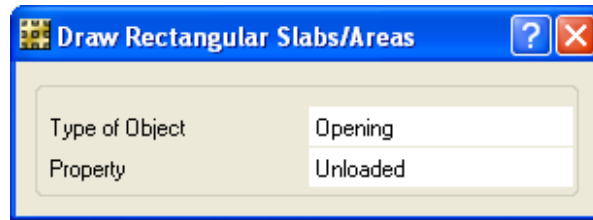

Figure 29 Draw Rectangular Slabs/Areas form
- A. Click the **Draw menu > Draw Rectangular Slabs/Areas** command to display the Draw Rectangular Slabs/Areas form shown in Figure 29.